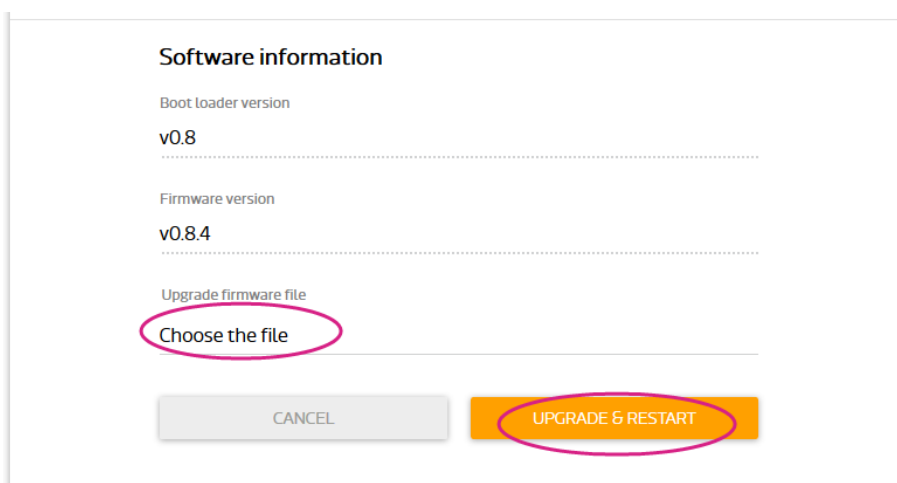

Figure 25 Selecting firmware file
- 3) Click **Choose the file** and select lks7688.img file. Click **UPGRADE & RESTART** as shown in Figure 25.